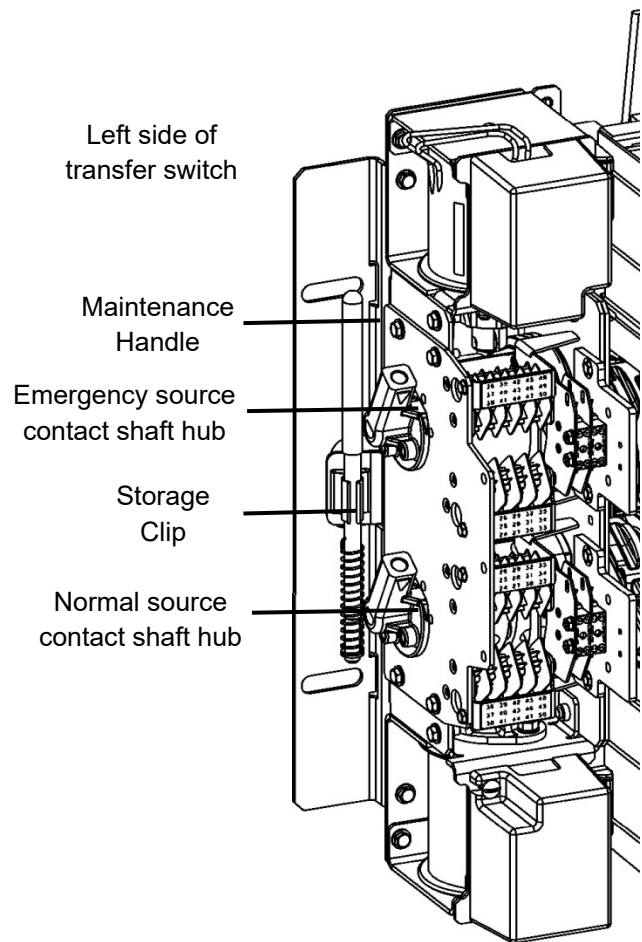

Figure 3 Maintenance handle storage location. Hubs shown with Normal closed & Emergency open
1. After de-energizing both power sources, open the enclosure door. Locate and remove the maintenance handle from the clips on the left side of the transfer switch frame. Insert the handle into the hole in the molded hub on the left side of the operator. See Figures 3, 4, 5 and Table B.(on page 6).